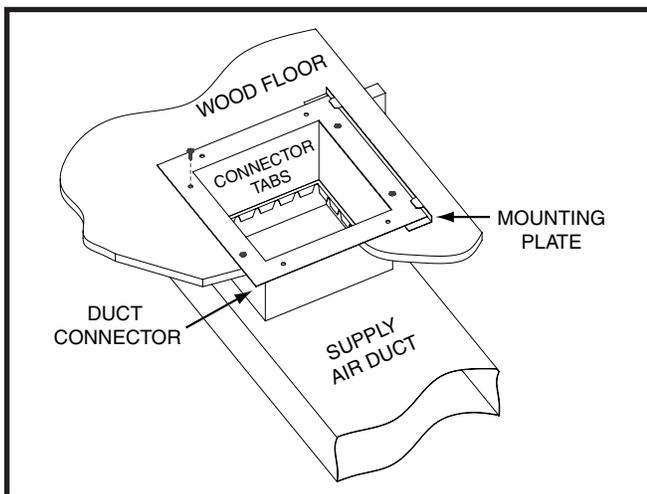

Figure 7. Standard Duct Connector Installed
Duct connectors are recommended for heated air distribution in under-the-floor duct systems. With this system, furnaces may be installed on combustible flooring without a separate sub-base. The furnace rear mounting plate (Figure 7 (page 8)) supplied with the duct connectors is recommended for use with this type of installation.
- Mark the cut-out area on the supply air duct by tracing around the connector tabs of the duct connector. See Figure 7.
- Install the mounting plate (Figure 7) under the back side of the duct connector. Align the screw holes in both components.